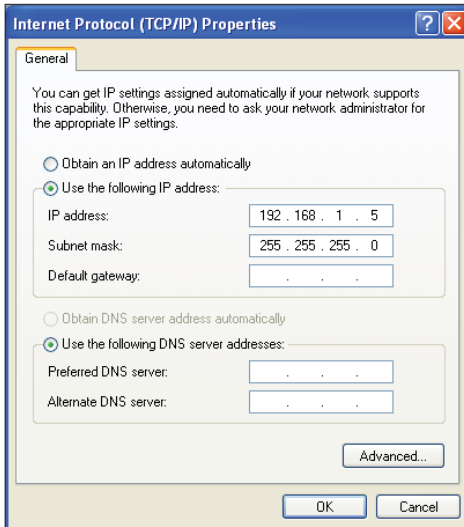

Figure 8: Internet Protocol Properties Window
- 6.) *Select* the radio button in front of **Use the following IP address (Figure 8)** and *write down* the current defaults so that you can re-enter them when you finish configuring the PT-Link II and then *type in* the following information:
- 6.) *Choose* **Internet Protocol Version 4 (TCP/IPv4)** by highlighting it and then *click* <Properties>. The *Internet Protocol Properties Window* will appear (**Figure 8**).
- 7.) *Select* the radio button in front of **Use the following IP address (Figure 8)** and write down the current defaults so that you can re-enter them when you finish configuring the PT-Link II and then *type in* the following information: